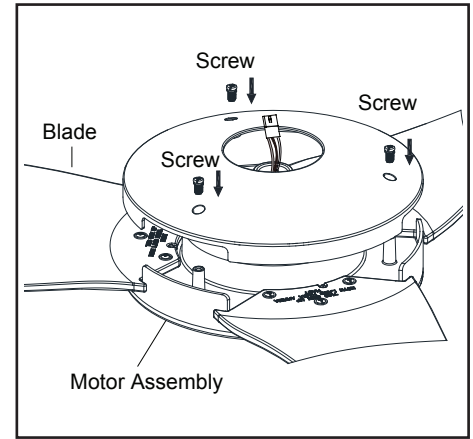

Figure 7
3. Put the top housing onto the fan motor assembly secure with the screws and tighten it .(Figure 7)